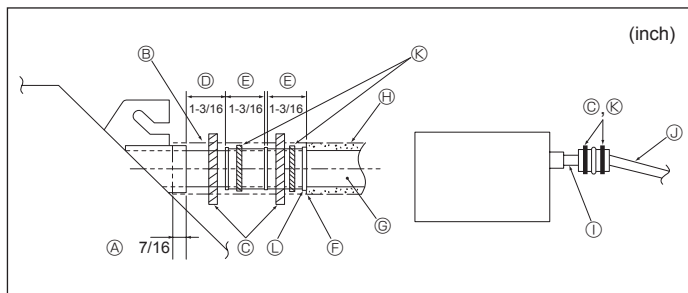

Fig. 5-6
1. Connect the drain socket (supplied with the unit) to the drain port. (Fig. 5-6) (Affix the tube using PVC adhesive then secure it with a band.)